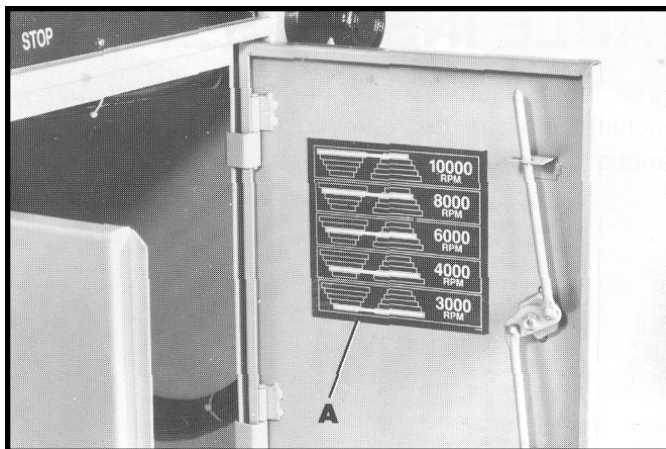

Fig. 40
Your machine is supplied with a 5-step motor pulley and a 5-step spindle pulley that provides spindle speeds of 3000, 4000, 6000, 8000 and 10,000 RPM. A large speed chart (A) Fig. 40, is located on the inside of the cabinet door for easy reference of the belt position on the pulleys for the five speeds available. For example, when the belt is on the smallest stop of the motor pulley and the largest step of the spindle pulley the spindle speed will be 3000 RPM; and when the belt is on the largest step of the motor pulley and the smallest step of the spindle pulley the spindle speed will be 10,000 RPM. To change speeds, proceed as follows: